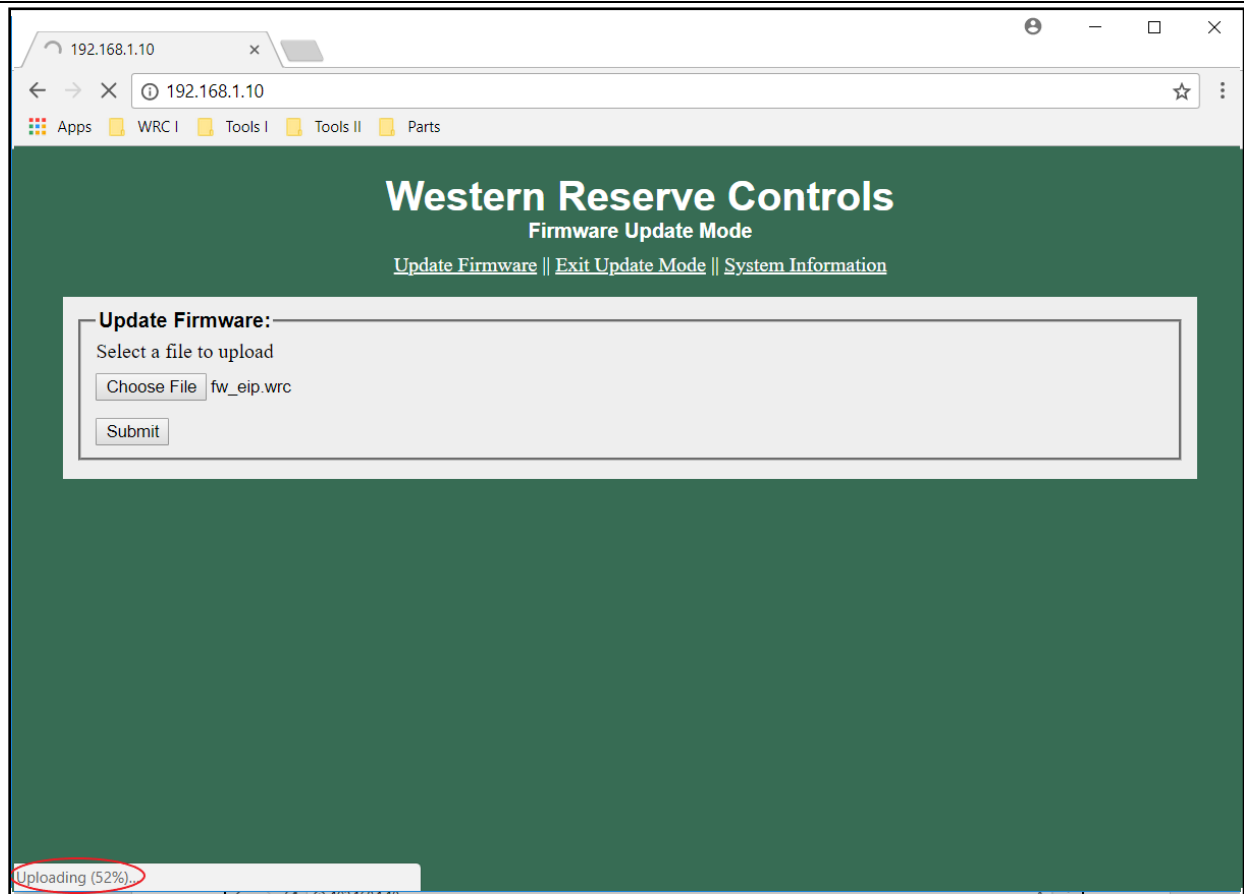

Figure 28. Downloading Firmware File
4. Click the 'Submit' button to begin firmware download to device. The browser should display some kind of indicator of percentage of file downloaded, see Figure 28.